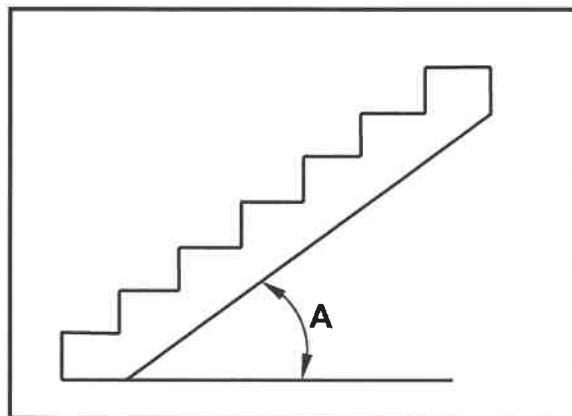

FIGURE 1.2
1.2 FIGURE 1.2 below shows an incomplete construction of a staircase.